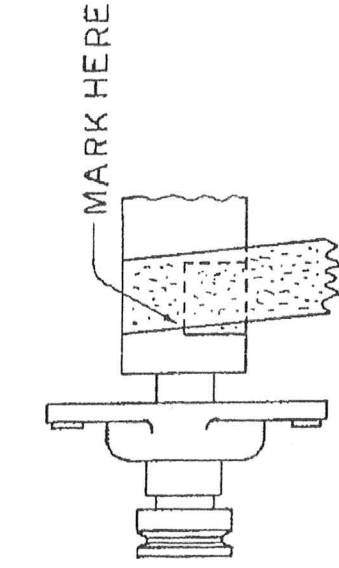

Fig. C-1
3. Wrap the sandpaper around the head one time and mark where it meets the end (see fig. C-1).